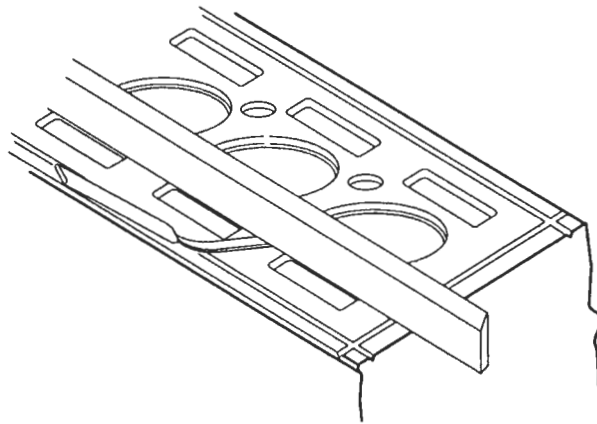

Figure 14. Checking Top Face of Cylinder Block
5. Check the top of the block for flatness with an accurate straight edge and a feeler gage (Figure 14.)